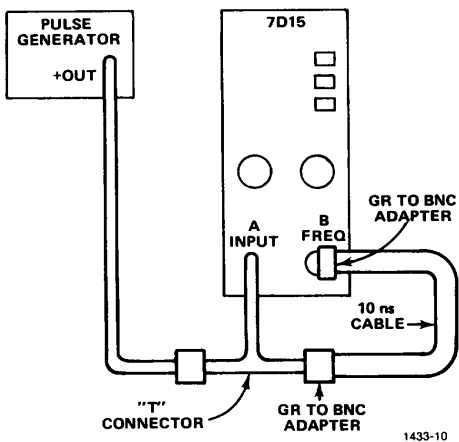

Fig. 5-7. Equipment setup used to check TIM A-B accuracy.
f. Connect equipment as shown in Figures 5-7 using the 10 ns cable.